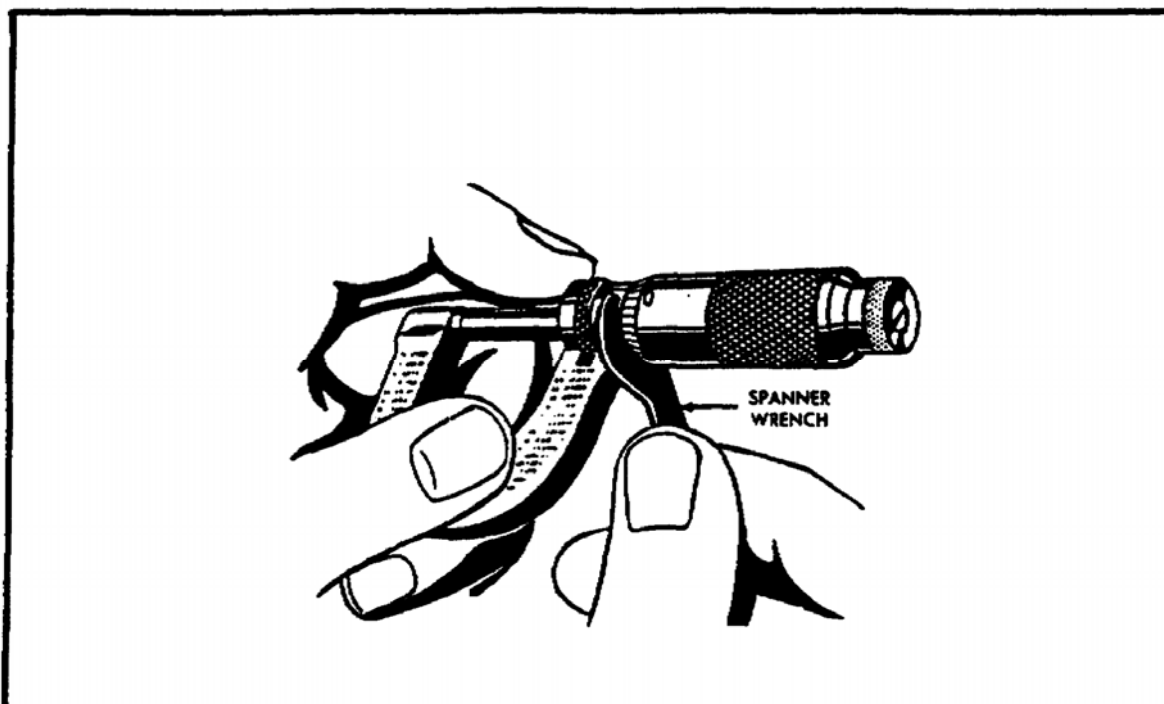

FIGURE 196. MICROMETER ADJUSTMENT.
(1) Never store a micrometer with its anvil and spindle closed. Flat surfaces wrung together for any length of time tend to corrode. Leave a small gap between the anvil and spindle when storing.
(2) Oil the micrometer in only one place--the micrometer screw; and only with a very light oil. If storing for long periods of time, cover the micrometer with a light film of oil and wrap it in oiled paper.
(3) Never roll the thimble along the hand or arm. This practice, like holding the thimble and twirling the frame to open or close the micrometer, will cause excessive wear on the screw.
(4) Before using a micrometer, wipe it off and pull a piece of paper between the anvil and the end of the spindle.
(5) The micrometer should operate freely with no play in its travel. If a micrometer has play, or if it binds, it should be returned to the manufacturer for reconditioning. This condition is caused by abuse or uneven wear.
(6) Check the micrometer screw periodically with a precision gage block in at least four places other than zero to verify its accuracy. Simply measure a selected group of blocks ranging from 0 to 1 inch.
(7) Clean the micrometer mechanism whenever it becomes gummy, contains abrasive grit, or whenever it is to be adjusted. Use an approved cleaning agent.
(8) When the faces of the spindle and anvil become worn and they are no longer flat and parallel to each other, the error should not exceed 0.0002 inch on a micrometer which is graduated to control measurements to a limit of 0.001 inch, and should not exceed 0.00005 inch on a micrometer which is graduated to control measurements to a limit of 0.0001 inch. Measuring a ball at several points over the surface of the anvils will show up any error in parallelism. Parallelism can be tested by means of two balls mounted in an aluminum holder. If the anvils are in error more than the allowable maximum, the micrometer should be returned to the manufacturer for repair.
(9) In adjusting a micrometer to read correctly, the thimble is not set to 0, when the anvil is in contact with the spindle, but is set at some other dimension, to distribute the error. For example, if a micrometer screw had an accumulated error of 0.0003 inch in the length of its travel, and it were set correctly at 0, it would be off 0.0003 at 1 inch. However, if the micrometer were set correctly in the center of its travel, it would be 0.00015 under at 0 and 0.00015 over at 1 inch, which is a much better condition. Because a micrometer does not return exactly to 0 when anvil and spindle contact does not mean that it is not adjusted properly. Turn the friction sleeve with a small spanner wrench to compensate for minor wear on the anvil and spindle or on the screw, as shown in figure 196.